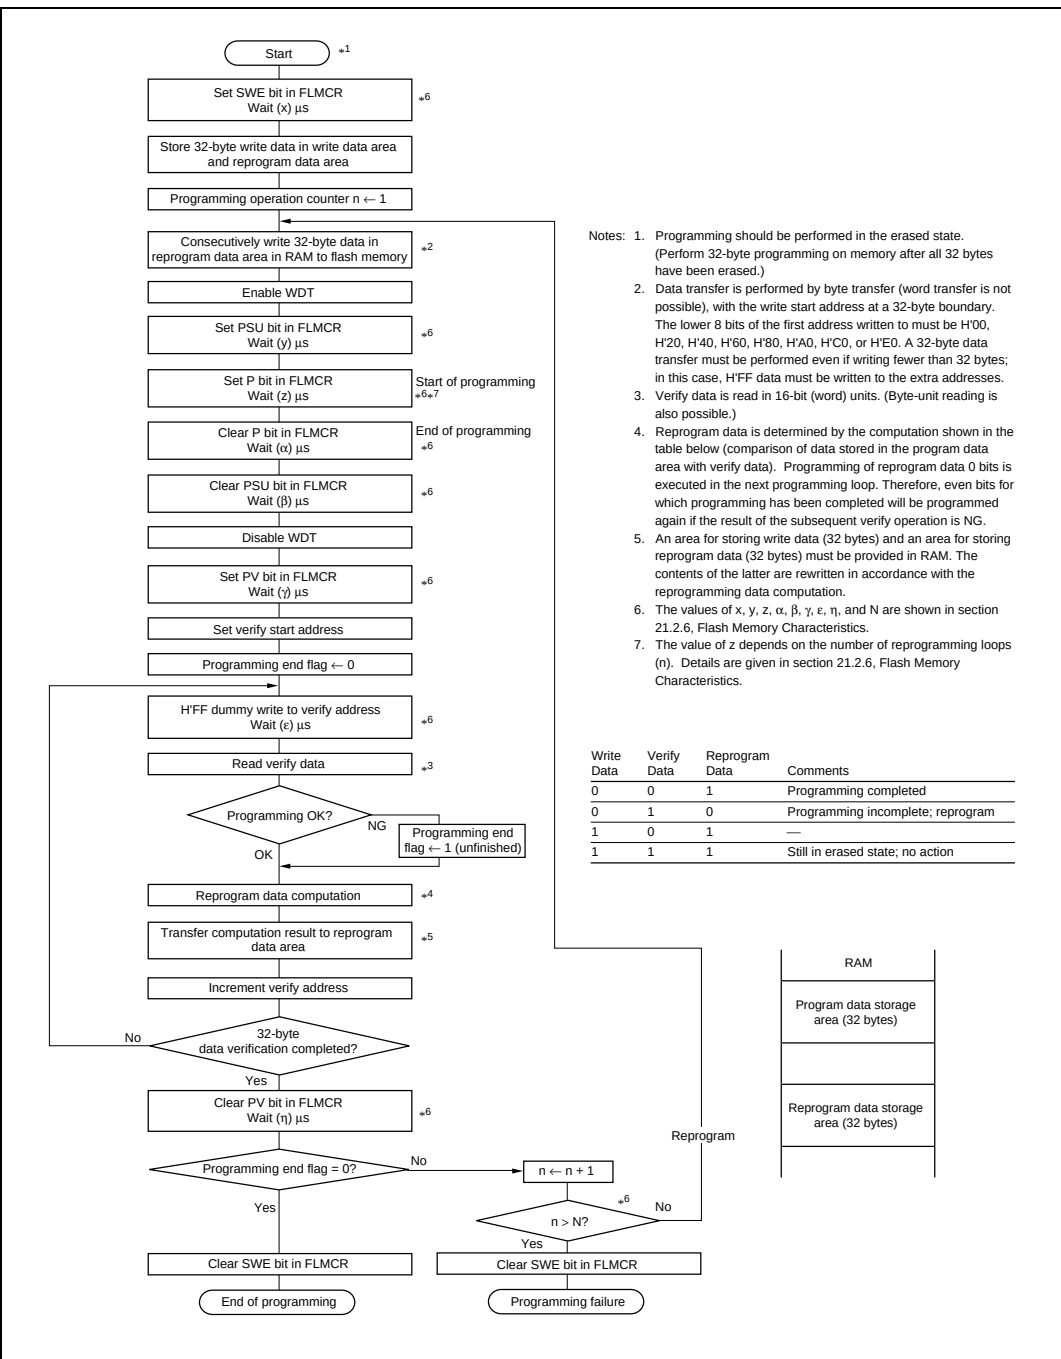

Figure 18.11 Program/Program-Verify Flowchart
Follow the procedure shown in the program/program-verify flowchart in figure 18.11 to write data or programs to flash memory. Performing program operations according to this flowchart will enable data or programs to be written to flash memory without subjecting the device to voltage stress or sacrificing program data reliability. Programming should be carried out 32 bytes at a time.
Clear the P bit in FLMCR, then wait for at least $(\alpha) \mu\text{s}$ before clearing the PSU bit to exit program mode. After exiting program mode, the watchdog timer setting is also cleared. Then the operating mode is switched to program-verify mode by setting the PV bit in FLMCR. Before reading in program-verify mode, a dummy write of H'FF data should be made to the addresses to be read. The dummy write should be executed after the elapse of $(\gamma) \mu\text{s}$ or more. When the flash memory is read in this state (verify data is read in 16-bit units), the data at the latched address is read. Wait at least $(\epsilon) \mu\text{s}$ after the dummy write before performing this read operation. Next, the originally written data is compared with the verify data, and reprogram data is computed (see figure 18.11) and transferred to RAM. After verification of 32 bytes of data has been completed, exit program-verify mode, wait for at least $(\eta) \mu\text{s}$, then determine whether 32-byte programming has finished. If reprogramming is necessary, set program mode again, and repeat the program/program-verify sequence as before. However, ensure that the program/program-verify sequence is not repeated more than (N) times on the same bits.